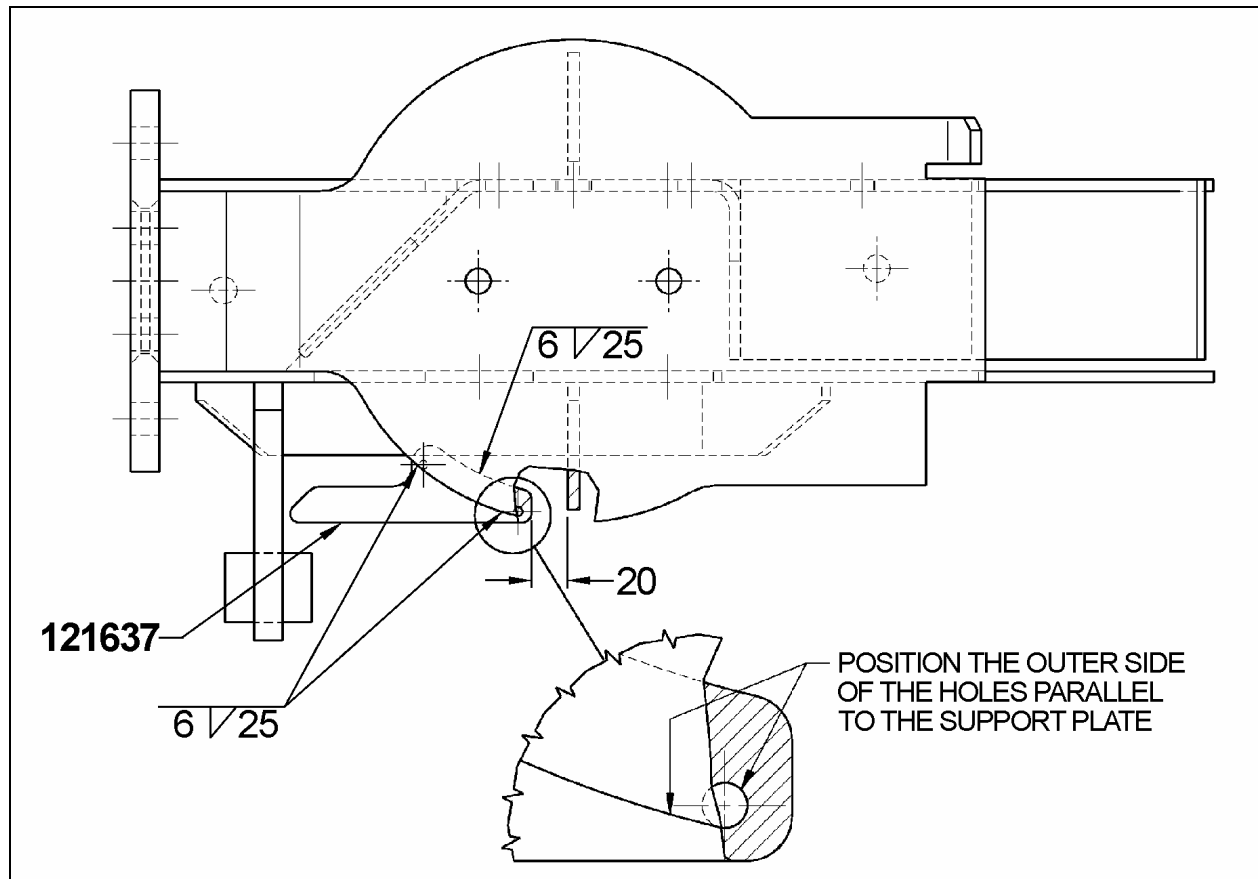

FIGURE 1
11. Install stops (121637) referring to welding specifications indicated in figure 1.
1. Do the appropriate welding on vehicle referring to figures 1 and 2 welding specifications.